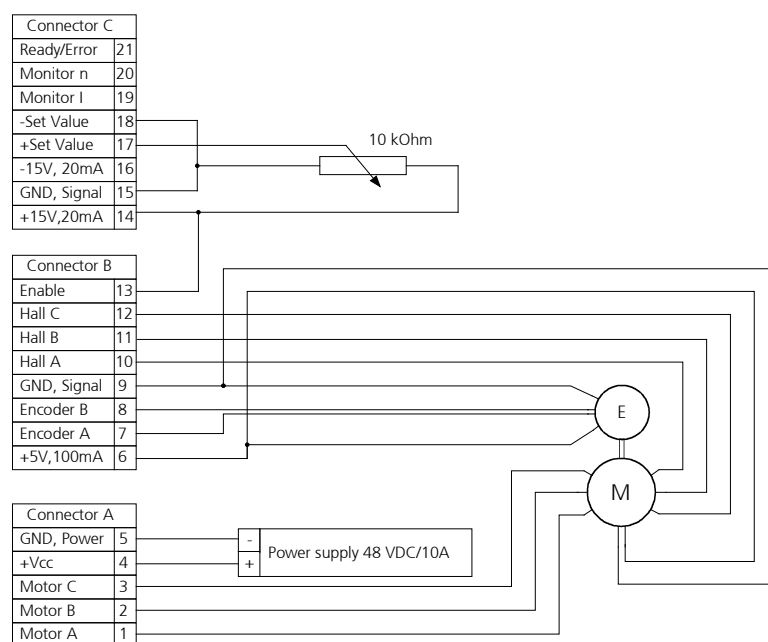

Figure 15
1. Connect the motor cables with the motor control unit (see Figure 15).